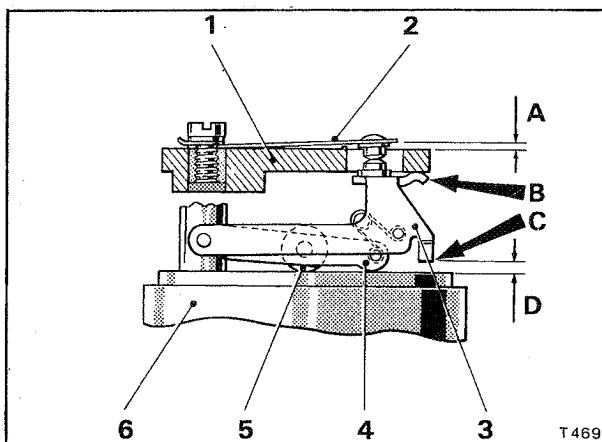

Fig. K23 Rocker finger and stop finger settings
13. Check and if necessary adjust the stop finger and rocker finger settings (see Fig. K23). Temporarily fit the contact blade to the pedestal housing and secure with the small screw.
14. Ensure that the lift of the contact blade tip above the top of the pedestal is 0,9 mm. \pm 0,13 mm. (0.035 in. \pm 0.005 in.) when measured at A in Figure K23 with a feeler gauge. Bend the stop finger beneath the pedestal to obtain this setting.